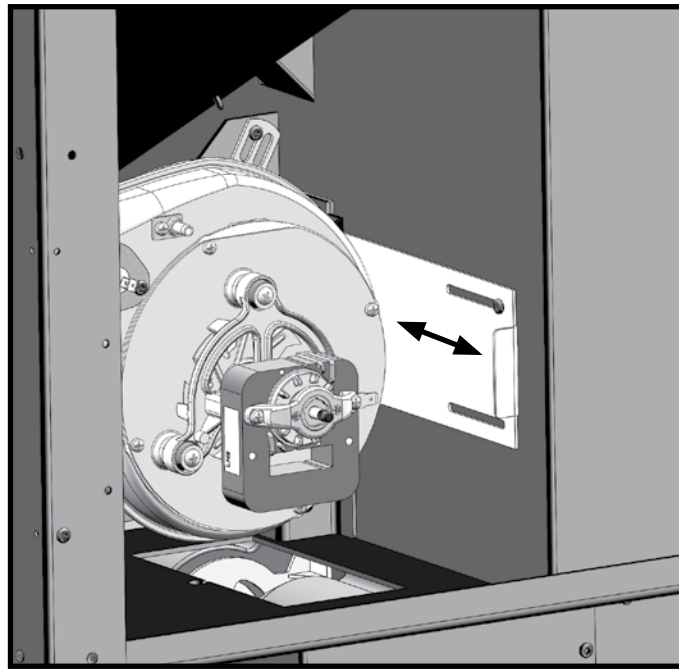

Figure 18: TN40 Damper.
- To increase the vacuum in the firebox, pull the damper out towards the outside of the stove See"Figure 18: TN40 Damper." and push it in to reduce the vacuum.